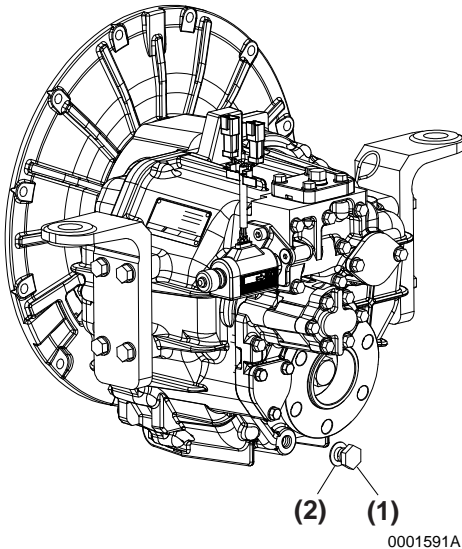
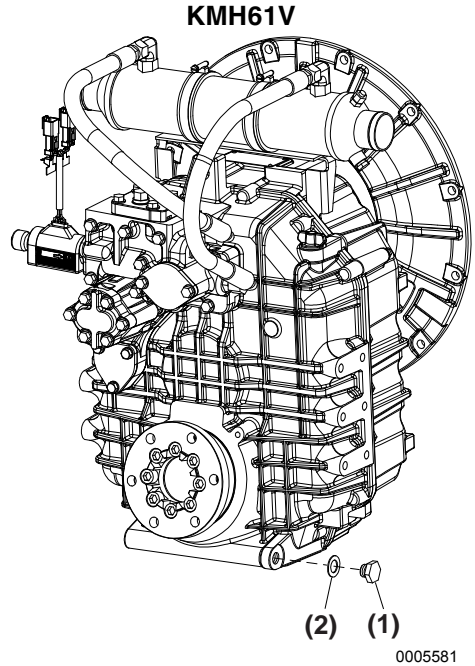

Figure 1
Figure 2
2. Remove the M16 drain plug ((Figure 1, (1)), (Figure 2, (1))) and seal ((Figure 1, (2)), (Figure 2, (2))).